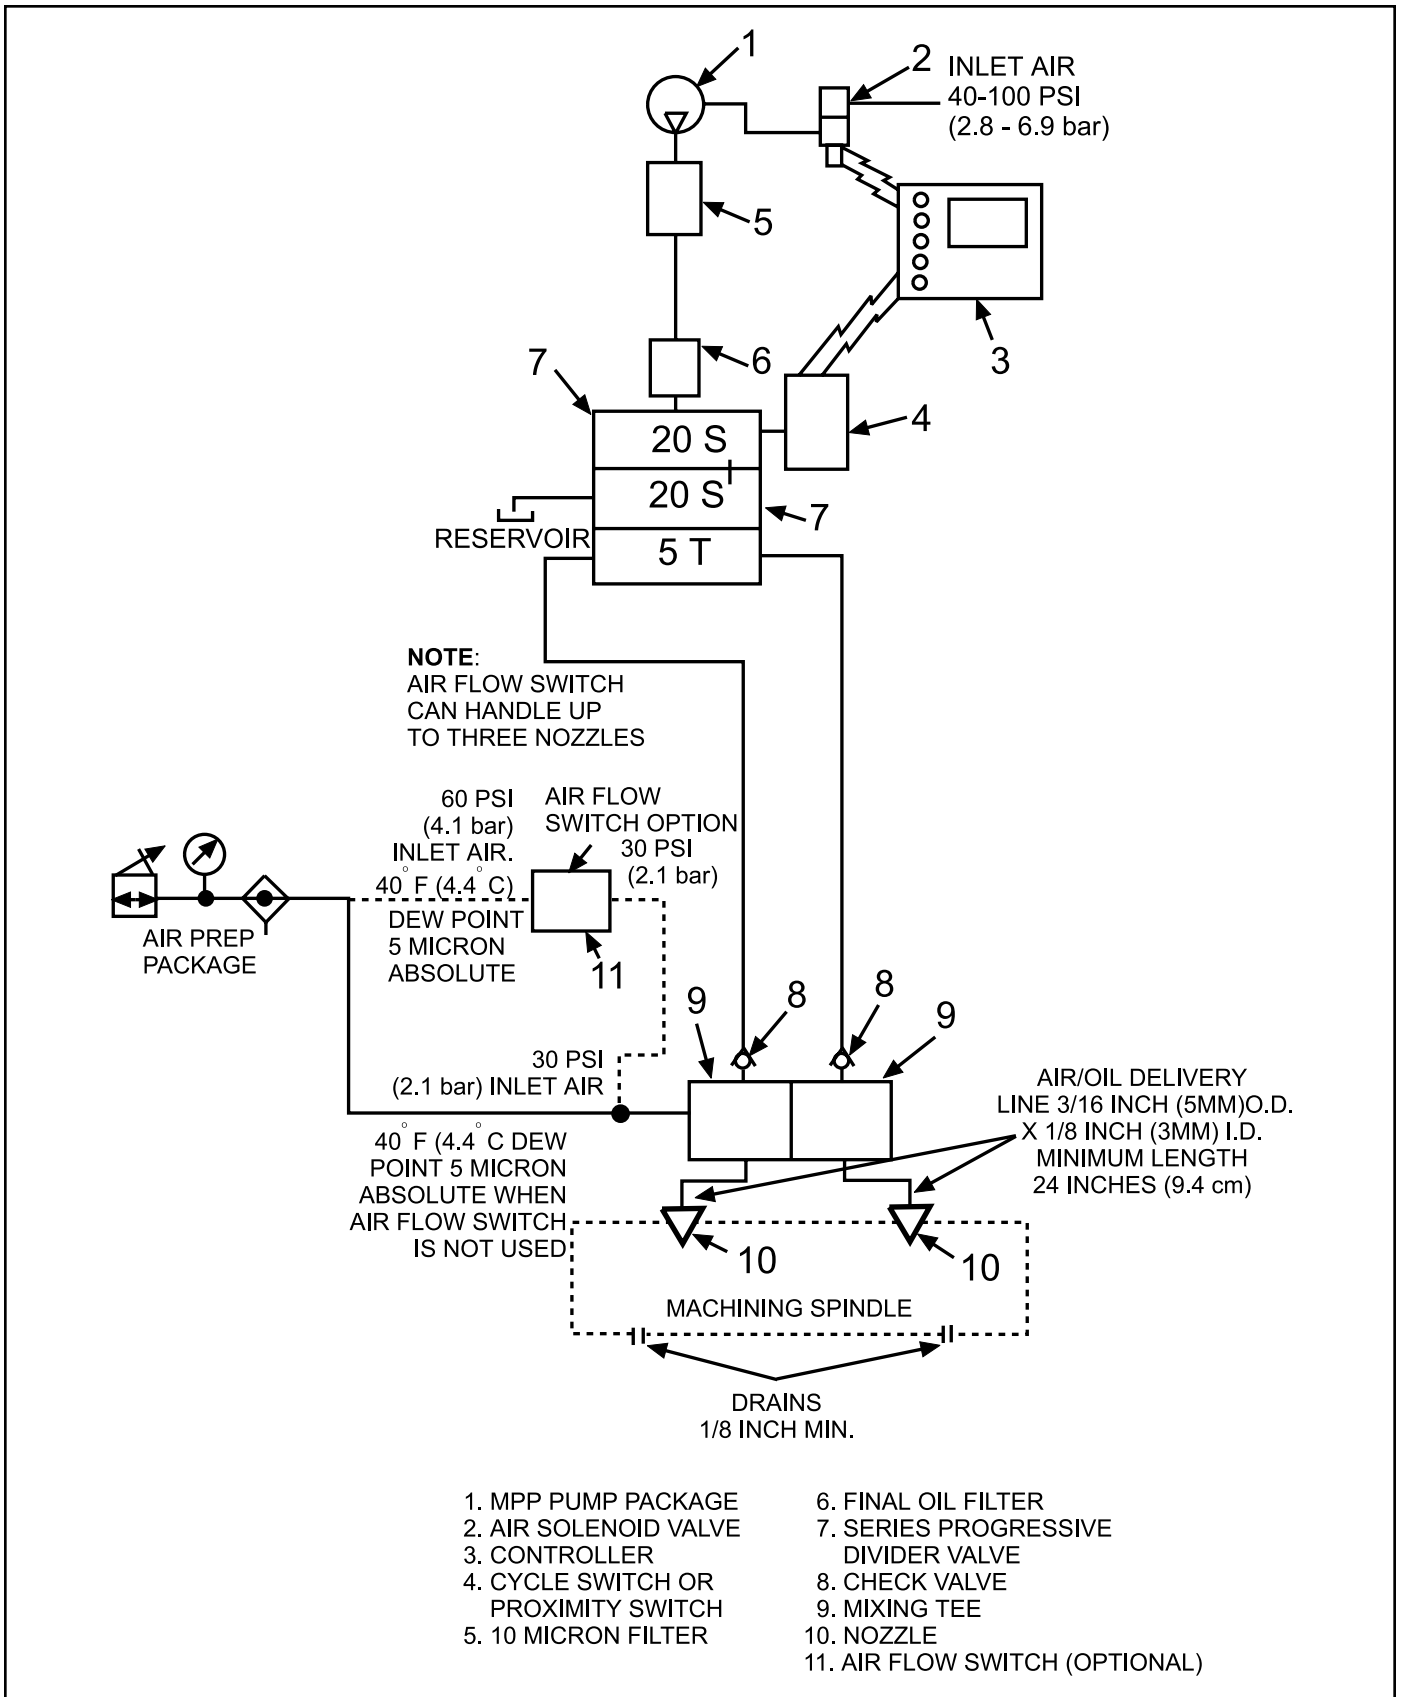

Figure 1-2. SG-2 System
1.4.1 General: SG-2 differs from SG-1 (para 1.3) primarily in lube delivery method and in the components used to mix and deliver the oil and air to the bearings. Instead of lubricating with discrete shots of oil spray, SG-2 supplies continuous, minute oil droplets to bearings. By using various options such as cycle switch and air flow switch, the system can give warnings of improper operation which could result in machining head damage. A typical SG-2 system is illustrated in Figure 1-2.
NOTE: Refer to Figure 1-2 for item numbers referenced in the descriptive paragraph below.